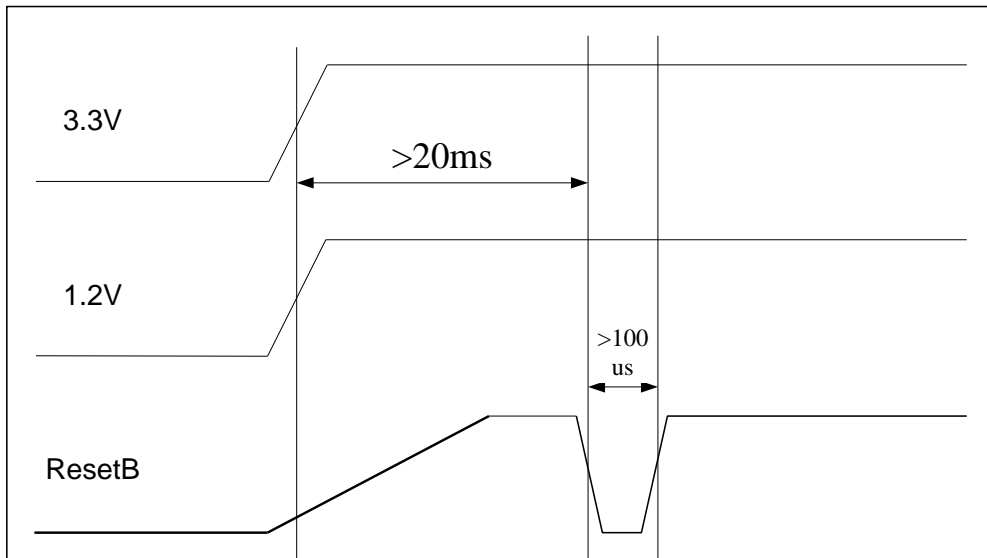

Figure 5: Power-on Reset Function's Sequence external global reset
2. RB signal is generate by system global reset. In this case, the power supply should be valid and stable for at least 20ms before the reset signal is valid. The pulse width of valid reset signal should be at least 100us. Otherwise, the chip can't work well. The timing is shown in **Figure 5**.